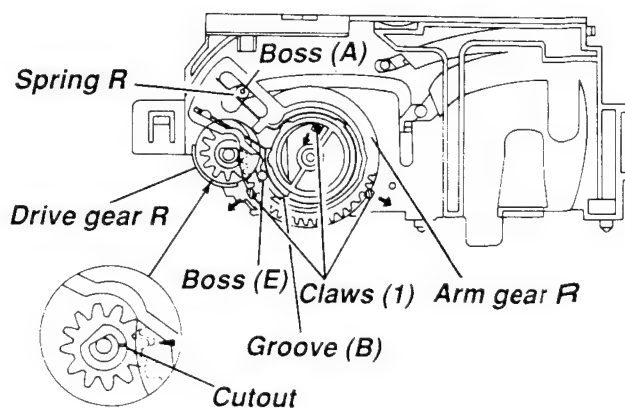

Fig. 4-1-4
1. Move three claws (1) in the direction of the arrow and remove the arm gear R. (Refer to Fig. 4-1-4.)
- Pay attention to positions of the boss (A) and the spring R. (Refer to Fig. 4-1-4.)
- In installing the holder guide, insert the tip of the door lock lever (B) into the hole (B)' on the holder guide.
- Confirm that boss (E) goes into groove (B) of Fig. 4-1-4.
(10) Door lock spring replacement